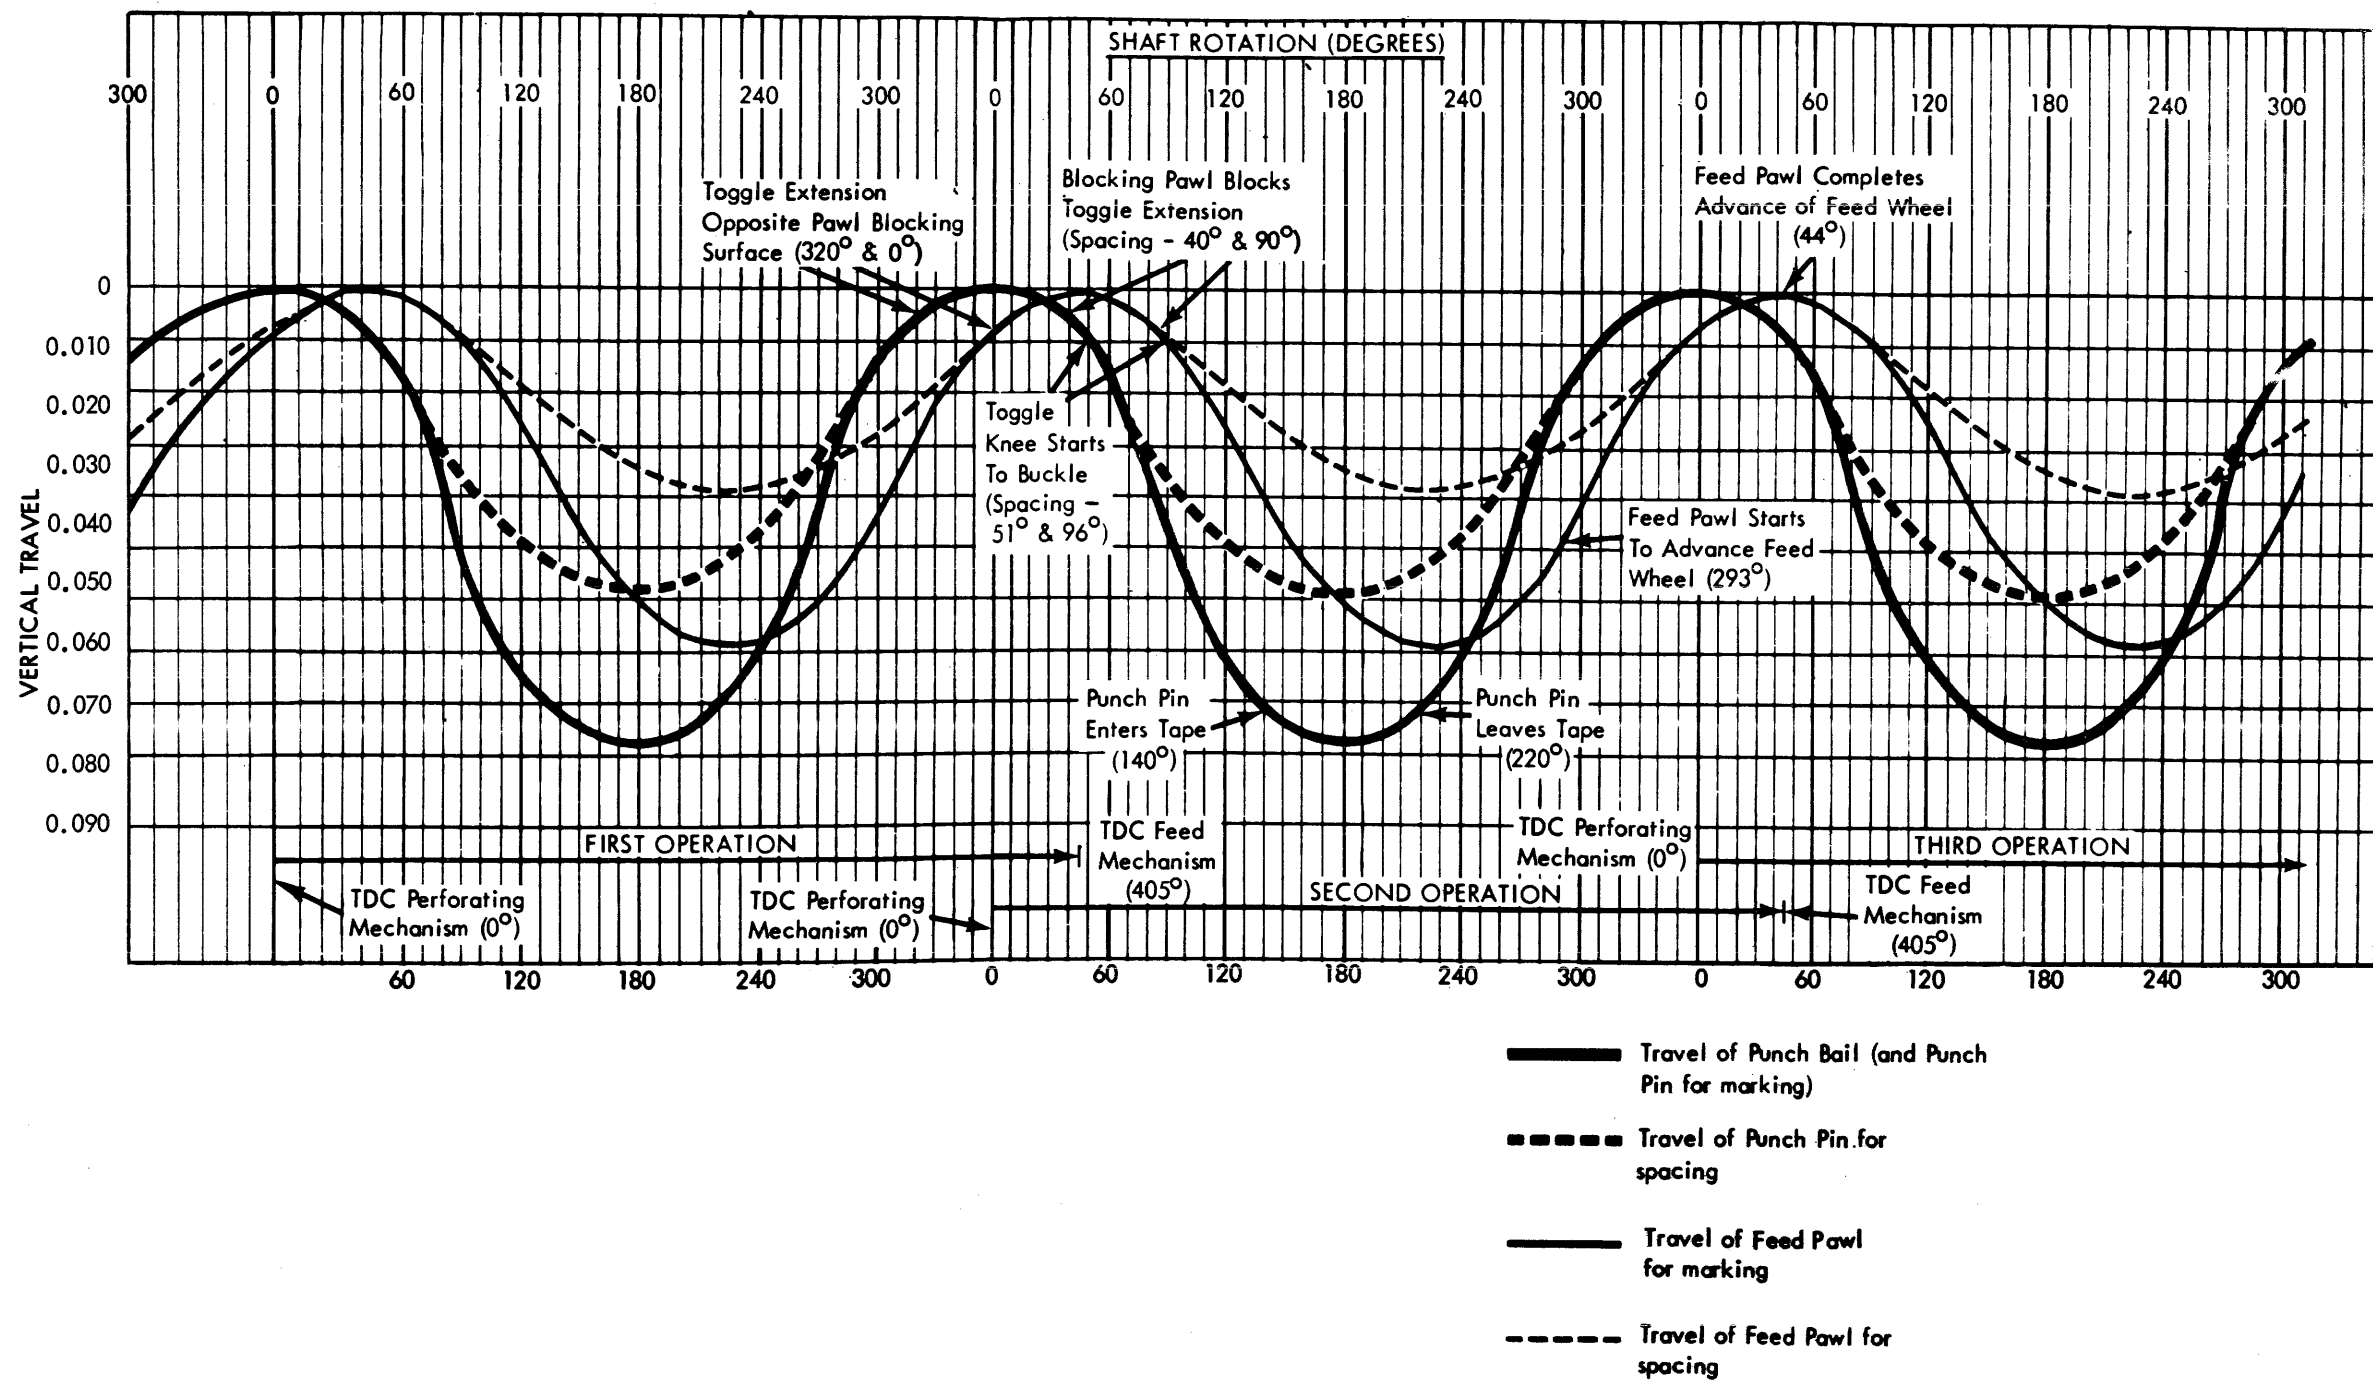
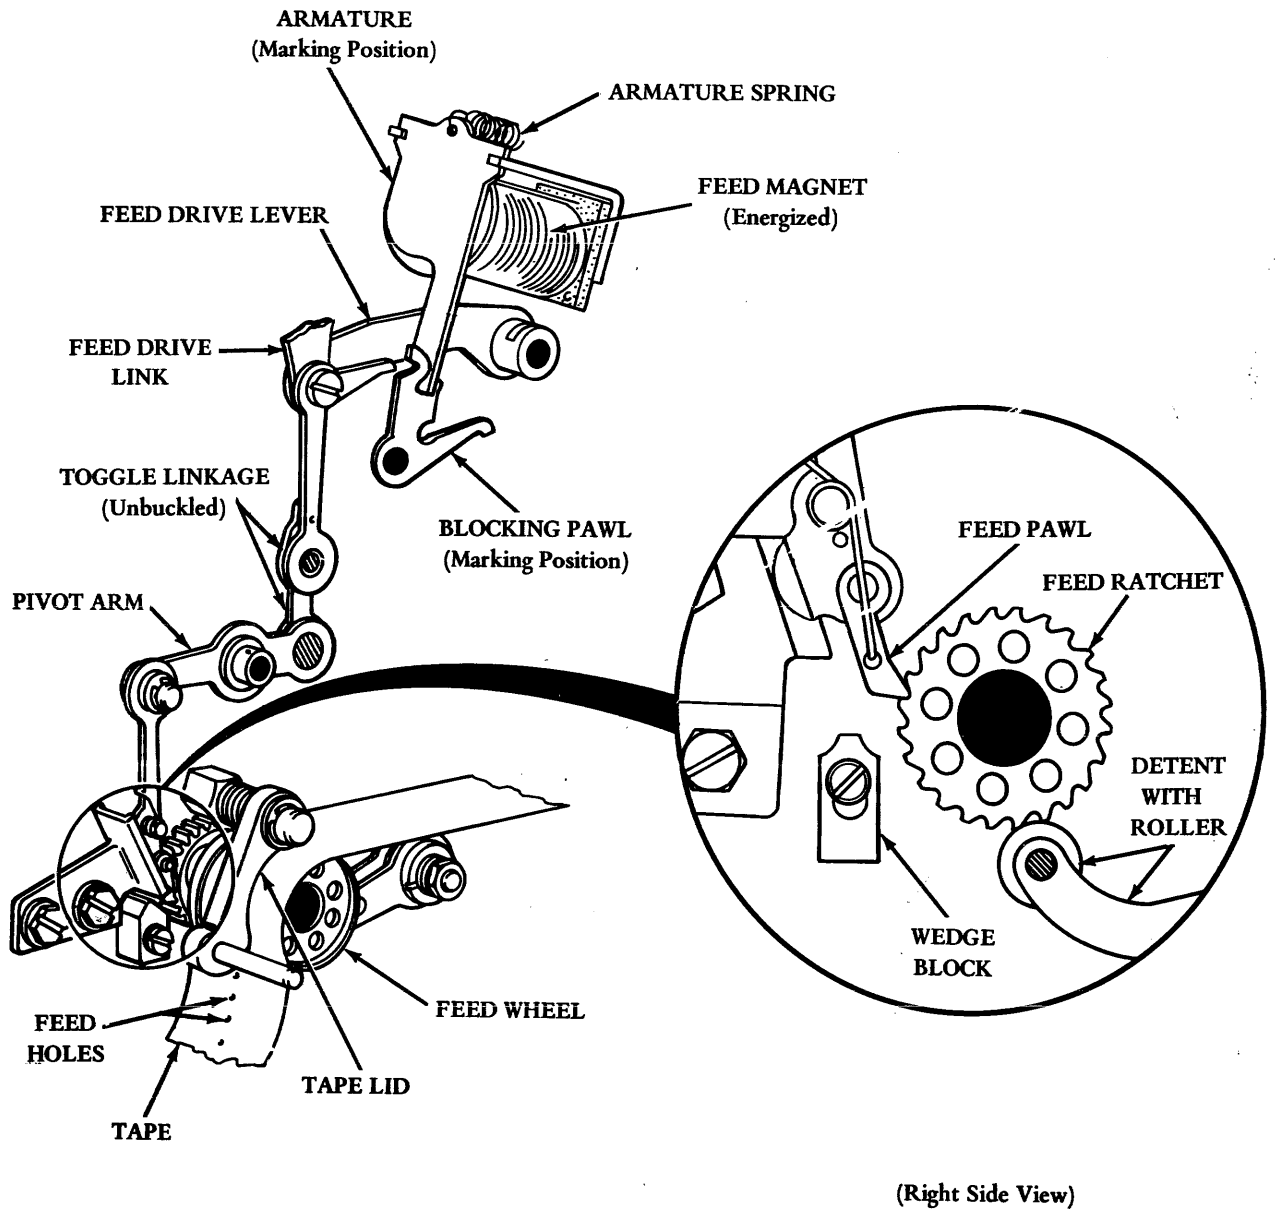

Figure 4 - Timing Diagram
Figure 9 - Tape Feed Mechanism
3.03 Figure 4 shows the vertical motion of the punch and feed mechanism being plotted against the rotation of the main shaft. Top dead center (TDC) of the punch mechanism has been designated as the zero degree point. The drive mechanism is so designed that the feed mechanism reaches TDC 45 degrees after the punch mechanism.
3.04 A tape punch operation is the period from TDC of the punch mechanism to TDC of the feed mechanism (405 degrees). This is the time needed by the equipment to punch a character and advance the tape when an electrical code combination has been received. As shown in Figure 4, the operations overlap by 45 degrees.
3.06 If intelligence is present in the storage register, a combination of code and feed pulses is applied to the code and feed magnets. The punch mechanism punches code holes in the tape corresponding to the marking pulses received. A feed hole is automatically punched with each code combination. Punching occurs about midway through the operation as shown in Figure 4.
4.01 The drive mechanism (Figure 7) converts rotary motion to oscillating motion; then applies it to the punch and feed mechanisms. The conversion takes place on the main shaft at points specifically designed to form two cams. The forward cam, through a set of bearings and drive links, causes the transfer surface of the punch bail to oscillate. This motion is represented by the heavy solid line in Figure 4, and is directly imparted to the punch mechanism. A second cam on the main shaft causes the feed drive lever of the feed mechanism to oscillate. This motion is represented by the light solid line in Figure 4. The angular displacement of the two cams are so related that the feed drive link reaches TDC 45 degrees after the punch bail does. As long as the motor switch is on, the drive mechanism will run continuously and transfer motion to the punch and feed mechanisms.
4.04 When the toggle linkages move down at the beginning of each idling condition, toggle extensions engage the blocking pawls and cause the linkages to buckle at 51 degrees of shaft rotation. Vertical motion is imparted to the punch pins through the drag links. Since the toggle linkages are buckled, the vertical displacement of the pins is not enough to pass through the tape. Thus, the code holes are not punched. The travel of the pins for spacing is represented by the heavy dotted lines in Figure 4. Each operation of the drive mechanism causes a feed hole toggle arm and drag link (having no associated magnet or buckling knee) to drive a feed hole punch pin through the tape. In the idle condition, this pin moves up and down in the same hole.
4.05 When a code combination is received, the magnets and associated parts corresponding to spacing levels operate as described in the two previous paragraphs. For marking levels in the code combination, the magnets are energized and pull their armatures to their operated (or marking) position. The armatures, in turn, hold the blocking pawls in their marking position. The timing is such that the armatures reach their marking position before the end of the selection interval (320 degrees to 40 degrees of shaft rotation) illustrated in Figure 4.
4.06 As the toggle linkages move down, the toggle extensions associated with marking levels clear their blocking pawls, and the unbuckled linkages drive their pins through the tape and punch code holes. The motion of the pins for marking is represented by the solid black line in Figure 4. As can be seen, perforation occurs about midway through the operation between 140 degrees and 220 degrees of shaft rotation. Each time tape is advanced, the feed hole punch pin perforates a feed hole.
4.07 The tape feed mechanism is shown in Figure 9. It includes a magnet and toggle linkage similar to those of the punching mechanism. In the idle condition the magnet is de-energized, and the armature and blocking pawl are held under spring tension in their spacing position. The drive mechanism, through the feed drive lever, causes the toggle linkage to oscillate. As the linkage moves down during the early part of each idling operation, it is buckled by the blocking pawl at 85 degrees of shaft rotation (Figure 4). The
linkage rotates a pivot arm which lifts the feed pawl, but not enough to raise it above the next tooth on the feed wheel. The motion of the feed pawl for idling (or spacing) is represented by the light dotted line shown in Figure 4. In this condition the feed wheel is not rotated nor is tape advanced.
4.08 When a code combination is received, a feed pulse is applied to the feed magnet which pulls the armature and blocking pawl into their marking position. The timing is such that the armature does not reach its fully released position before the end of the feed selection interval (Figure 4). As the toggle linkage moves down during the early part of the operation, the toggle extension clears the blocking pawl; the linkage remains in its unbuckled condition, and the feed pawl is lifted above the next tooth on the ratchet. When the linkage moves up during the latter part of the operation, it causes the pawl to act on the ratchet and rotate the feed wheel one tooth. Pins on the periphery of the wheel engage the feed holes and advance the tape one character. As shown in Figure 4, feeding occurs between 293 degrees and 44 degrees of shaft rotation.